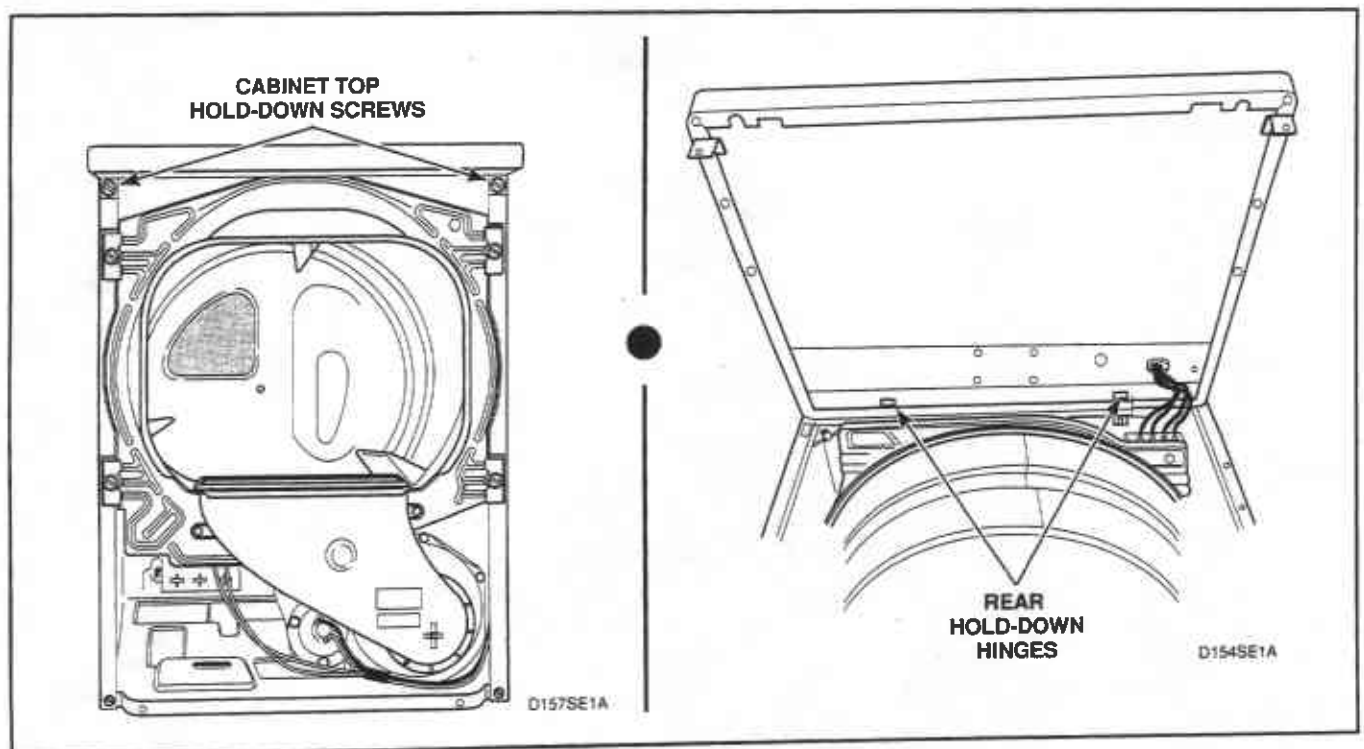

Figure 31
- Remove two cabinet top hold-down screws, *Figure 31*.
- Lift cabinet top to a vertical position by hinging it on the rear top hinges, *Figure 31*.
- Carefully withdraw wire harness through hole in cabinet top and lift the top off the top hinges, *Figure 31*.